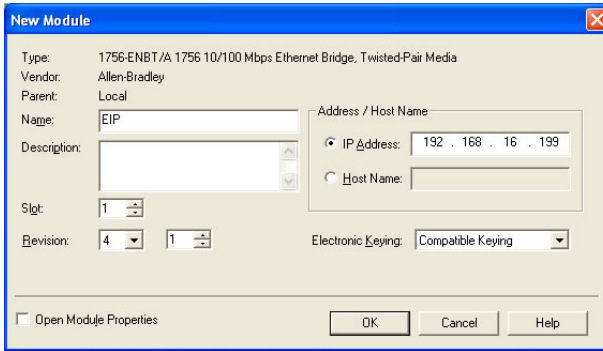

**Figure 77: Adding a New 1756-ENBT/A Module**
- 5) Under “Communications”, select “1756-ENBT/A”, and click OK. Refer to Figure 77.